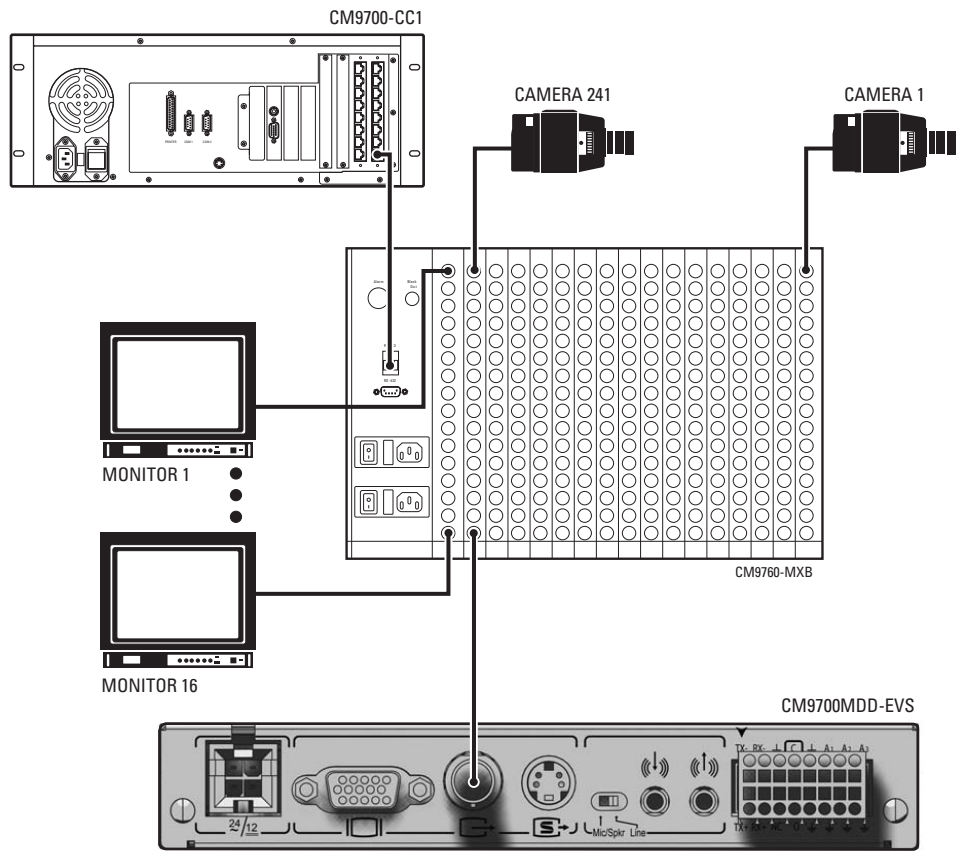

Figure 14. Sample Video Connection Between the CM9700MDD-EVS and the CM9760-MXB
- In a System 9760, video input connectors are on the CM9760-MXB rear panel, as shown in Figure 14 on page 18.
NOTE: Figure 14 illustrates a sample video connection. Video from the CM9700MDD-EVS can be connected to any unused input on the matrix bay.